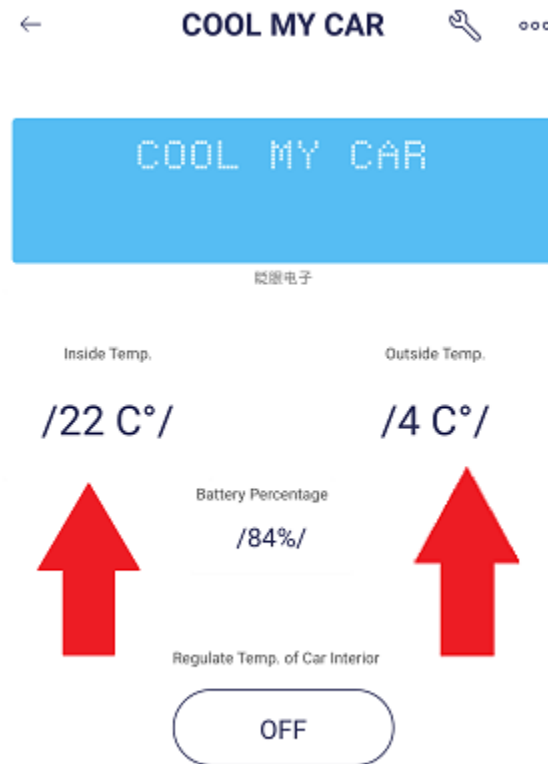

Figure 7. Location of the ambient temperature inside and outside the car.
- Figure 7. Location of the ambient temperature inside and outside the car.